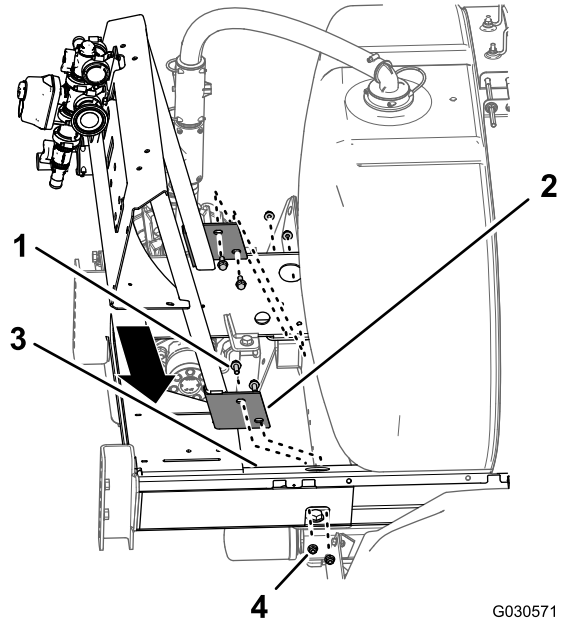

Figure 100
1. Align the holes in the flange of the manifold mount for the 10-valve system with the holes in the frame of the sprayer chassis (Figure 100).
2. Assemble the manifold mount to the sprayer chassis (Figure 100) with the 4 flange-head bolt (3/8 x 1 inch) and 4 flange-locknut (3/8 inch) that you removed in step 3 in 18 Removing the